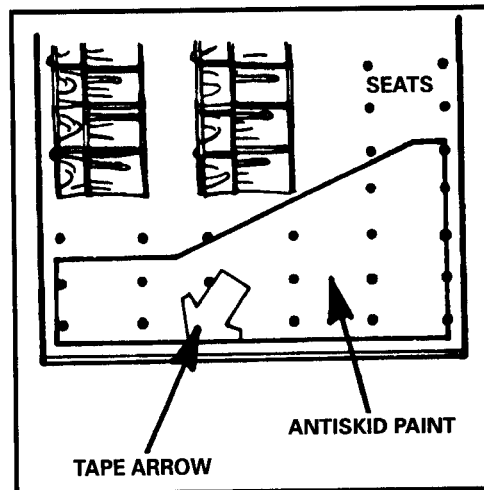

Figure 19-11. CH-54 pod floor with nonskid paint material.
(5) The free ends of the cable, cable clamps, and inboard sides of the wooden blocks are taped.
(6) A 3-foot-wide section across the aft portion of the pod floor is coated with nonskid paint material (Figure 19-11). An arrow 4 inches wide and 24 inches long is placed on the floor with white tape to indicate position and direction of exit.